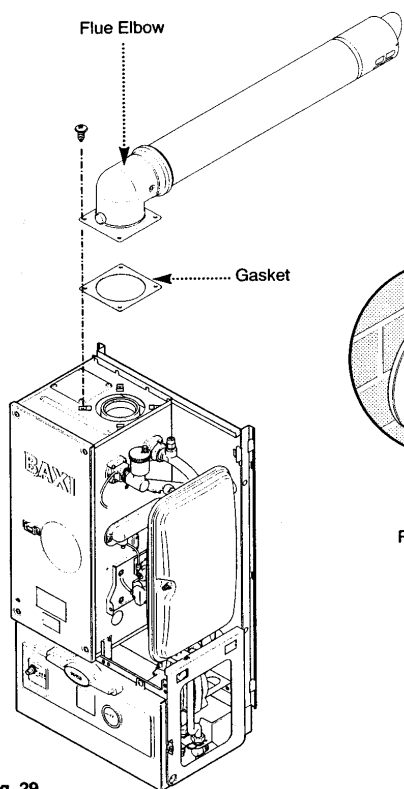

Fig. 29
7. Engage the flue into the flue elbow using soap solution to ease the engagement ensuring the flue is assembled as shown (Fig. 29).